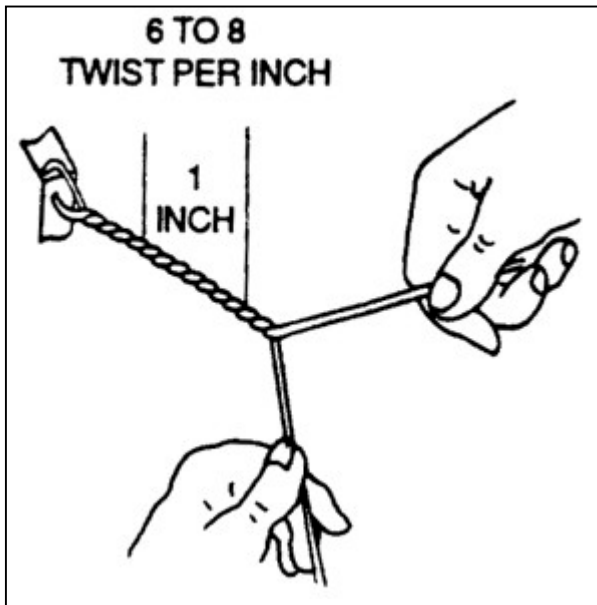

FIGURE 7-3a. Wire twisting by hand.
e. Safety wire must never be overstressed. Safety wire will break under vibrations if twisted too tightly. Safety wire must be pulled taut when being twisted, and maintain a light tension when secured. (See figure 7-3a.)
(1) Check the units to be safety wired to make sure that they have been correctly torqued, and that the wiring holes are properly aligned to each other. When there are two or more units, it is desirable that the holes in the units be aligned to each other. Never overtorque or loosen to obtain proper alignment of the holes. It should be possible to align the wiring holes when the bolts are torqued within the specified limits. Washers may be used (see paragraph 7-37) to establish proper alignment. However, if it is impossible to obtain a proper alignment of the holes without undertorquing or overtorquing, try another bolt which will permit proper alignment within the specified torque limits.
(2) To prevent mutilation of the twisted section of wire, when using pliers, grasp the wires at the ends. Safety wire must not be nicked, kinked, or mutilated. Never twist the wire ends off with pliers; and, when cutting off